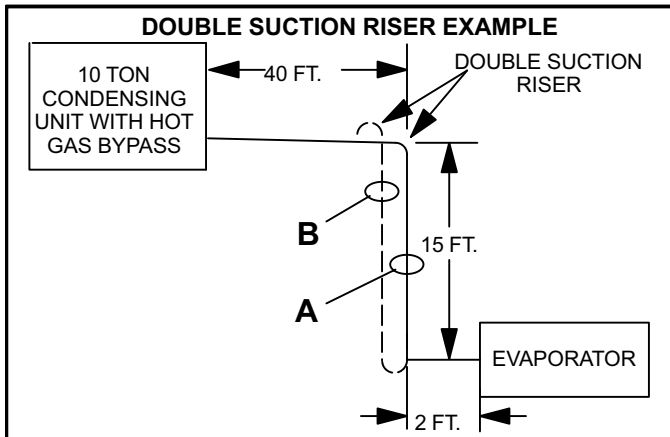

FIGURE 18
**Given:** 10-ton condensing unit with hot gas bypass (run-around type). Matched evaporator is located below the condensing unit. Piping will require 57 (linear) feet of pipe (figure 18). Construction without double suction risers will only require 2 ells.
Start by finding the total equivalent feet of the large (B) riser. See figure 18. Fifteen feet of pipe, plus two tees (branch side of tee at 4.5 equivalent feet each), plus four ells (1.8 equivalent feet each) = 31.2 equivalent feet length:
Now, find the total equivalent feet of the small (A) riser. See figure 18. Fifteen feet of pipe, plus one ell (1.5 equivalent feet), plus one tee (branch side of tee at 3.5 equivalent feet), plus one tee (line side of tee at 1.0 equivalent feet) = 21.0 equivalent feet length: